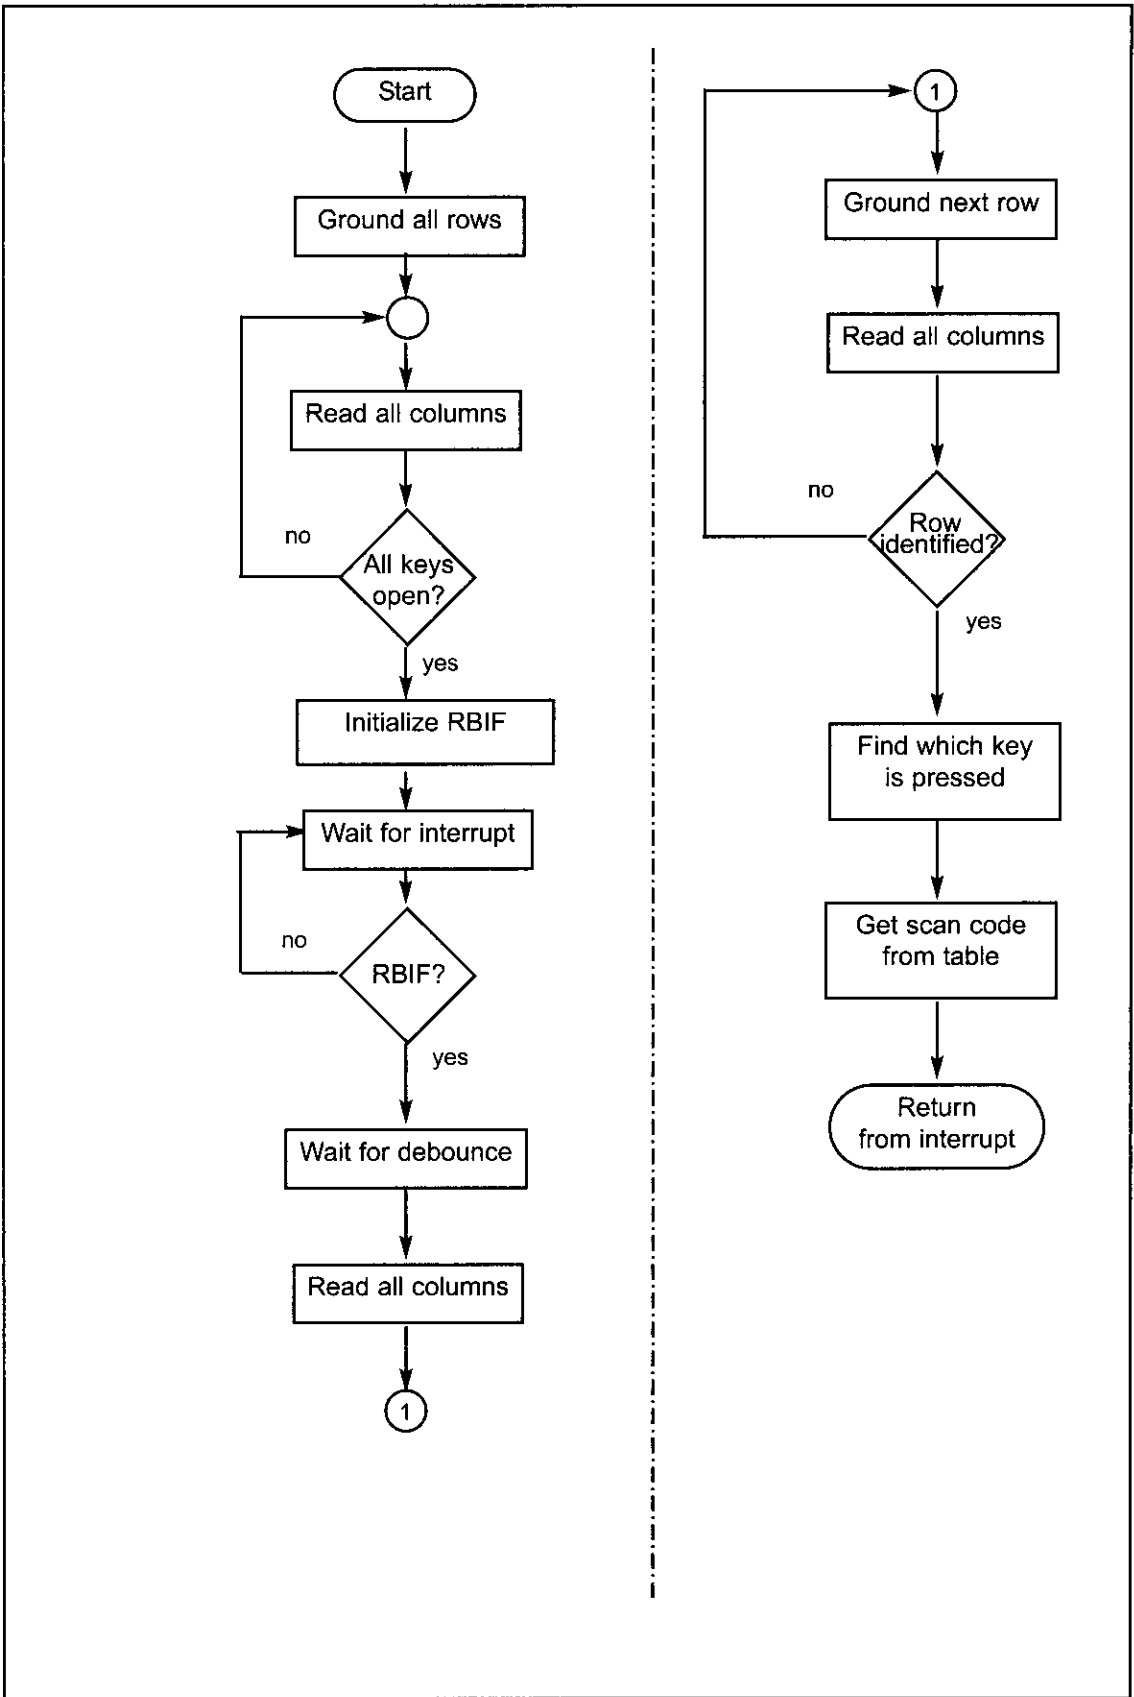

Figure 12-7. Flowchart for Program 12-4
4. To identify the key press, the microcontroller rotates the column bits, one bit at a time, into the carry flag and checks to see if it is LOW. Upon finding the zero, it pulls out the ASCII code for that key from the look-up table; otherwise, it increments the pointer to point to the next element of the look-up table. Figure 12-7 flowcharts this process.
The look-up table method shown in Program 12-4 can be modified to work with any matrix up to 8×4 . Figure 12-7 provides the flowchart for Program 12-4 for scanning and identifying the pressed key.